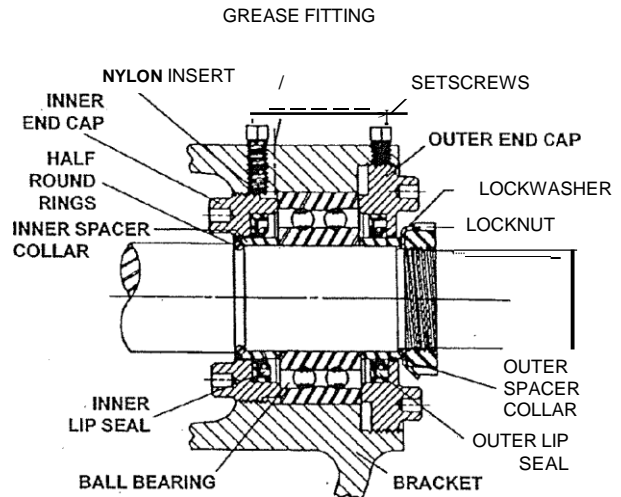

FIGURE 6
8. Loosen the setscrews. Two on G, H and HL, size pumps, four on all other sizes. With a spanner wrench, remove both end caps with lip seals. Remove the ball bearing and spacer collars. Refer to Figure 6.
Place pair of half round rings on the shaft and slide the inner bearing spacer collar over the half round rings to lock them in place. There is no pair of half round rings on G, H and HL size pumps. **Refer to Figure 6, page 5.**
8. Press the lip seal, the lip facing the end of the shaft, in the inner end cap and insert the end cap through the shaft end of the bracket. Turn the end cap clockwise, looking at the shaft end, until it engages the threads. The end cap spanner wrench holes must be facing the rotor. Turn the end cap with a spanner wrench until it projects slightly from the opening on the side of the bracket. The end cap must not be turned so far that the lip seal drops off the end of the spacer collar on the shaft or end cap becomes disengaged from the threads. **Refer to Figure 6, page 5.**
10. Press the lip seal, the lip facing the end of the shaft, in the outer end cap and insert the end cap in the bracket. Turn the end cap in the bracket until it is tight against the bearing. **Refer to Figure 6, page 5.**
7. Loosen the setscrews. Two on G, H and HL size pumps, four for all other sizes. With a spanner wrench, remove both end caps and lip seals. Remove the ball bearing and spacer collars. **Refer to Figure 6, page 5.**